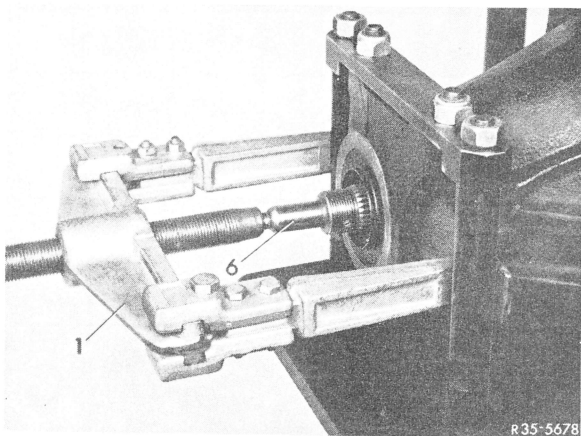

Fig. 3
- 4 Force drive pinion out of rear axle housing with conventional puller (Fig. 3).